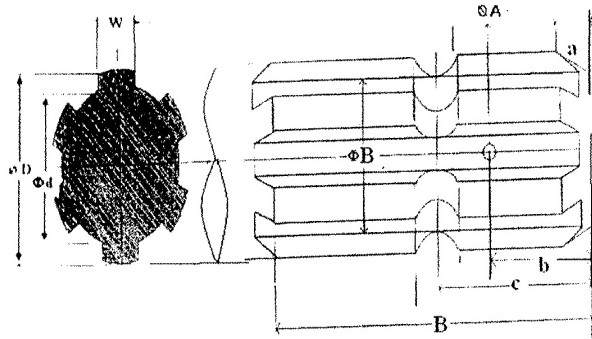

Fig. 1 Dimension of Implement Power Input Shaft
3.2	Power unit (Splined end of input shaft (Ref. Fig.1):